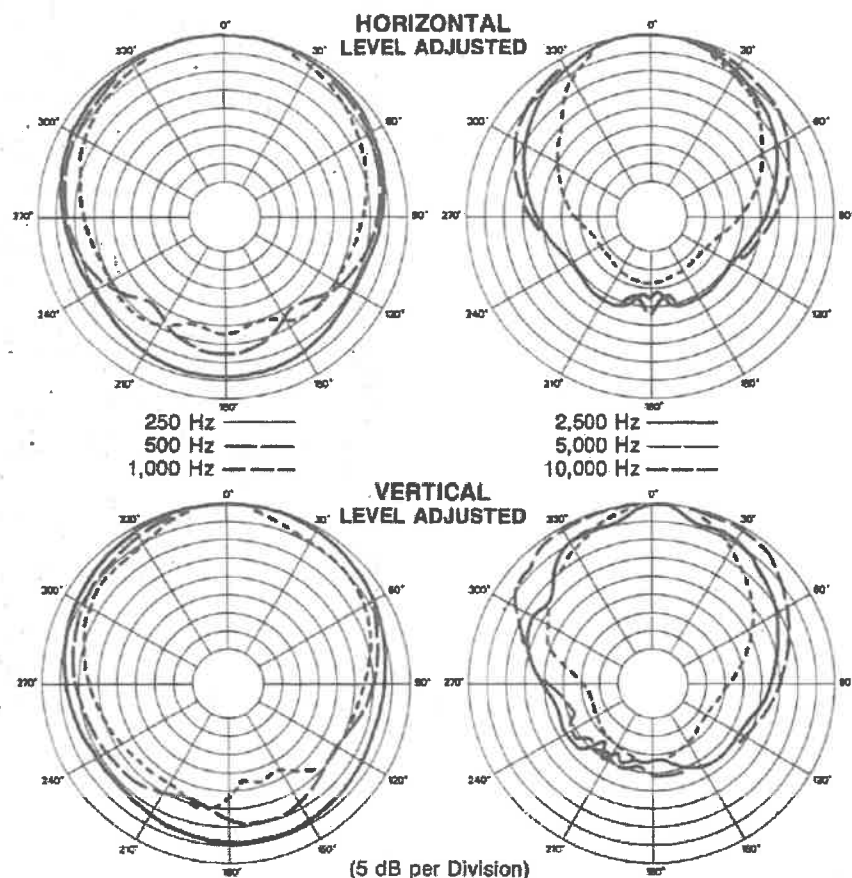
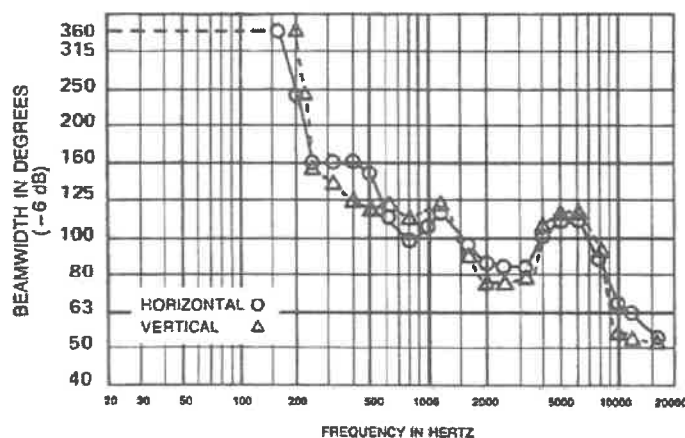
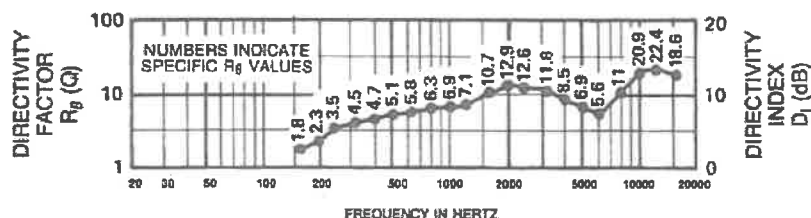

FIGURE 2 — Polar Response (1/3-octave pink noise 4 volts/10 feet)
FIGURE 3 — Beamwidth vs. Frequency Whole Space (anechoic)
FIGURE 4 — Directivity vs. Frequency Whole Space (anechoic)
Median (see Figure 4):
(see Figure 4):
A unique feature of the FR12-2 is the constant-directivity dispersion provided by the 100° x 100° Direktor. The polar response of the system at selected 1/3-octave bandwidths is shown in Figure 2. These polar responses were measured in an anechoic environment at 10 feet using 1/3-octave pink noise inputs. The frequencies selected are fully representative of the polar response of the system. Beamwidth of the system utilizing the complete 1/3-octave polar data is shown in Figure 3. R_0 (Q) and directivity index (DI) are plotted in Figure 4.